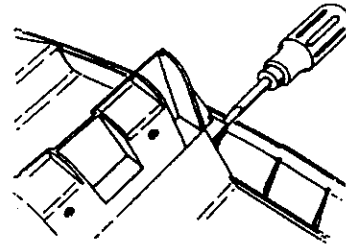

Fig. 23
2. Release two tabs and lift cover off. (Fig. 23)